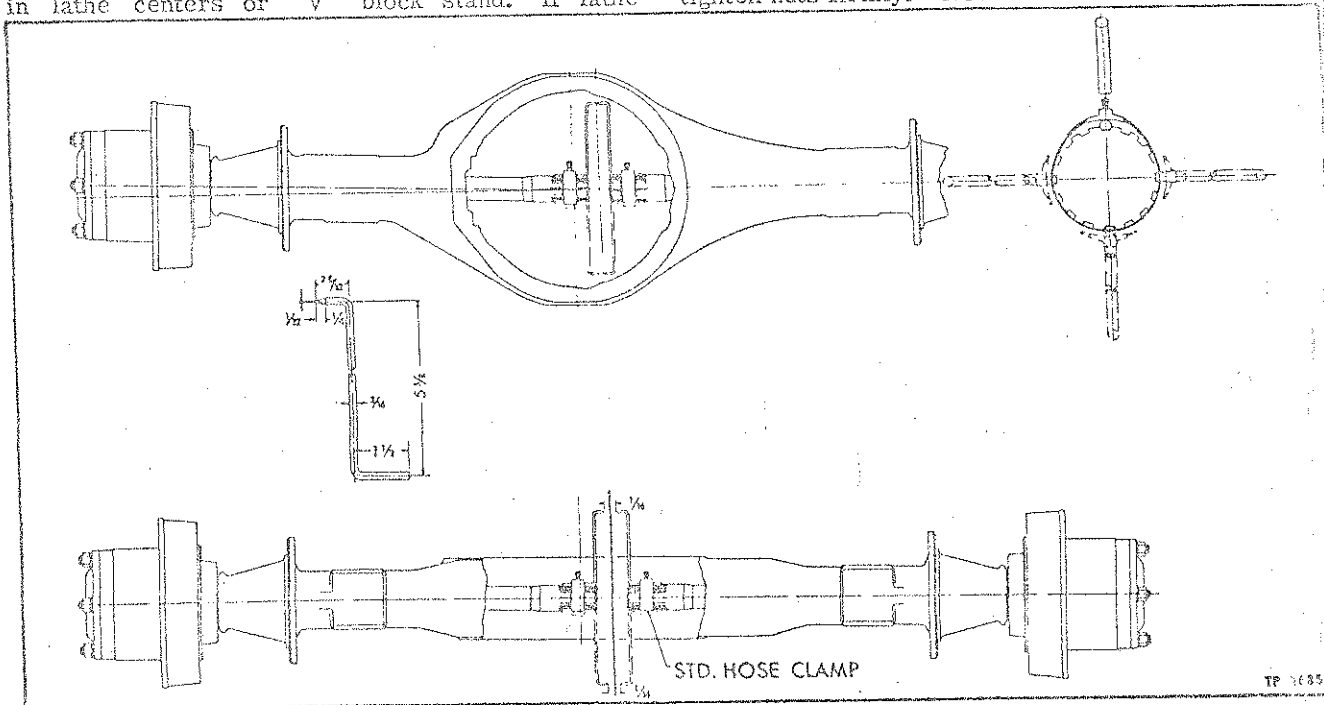

Figure 4—Housing Alignment Check
3. Indicators, as shown in figure 4, may be made locally from welding or drill rod (3/16" diameter) to dimensions shown. Make certain that burrs on axle shaft splines have been removed. Install indicators in place as shown in figure 4. Radiator hose clamps of suitable diameter may be used to secure indicators in position.
4. Each indicator must be positioned at right angle to its respective axle shaft after it is secured in place. Both indicators must be in alignment with each other. There should be a slight gap between the points as shown in figure 4. Insert a feeler gauge or measure gap between the indicator points, and make note of this dimension.
5. Place both indicators in alignment, then rotate both shafts simultaneously. Make a check of the gap dimensions between the indicators at four points 90 degrees apart, as shown in figure 4. If the gap at each point exceeds original predetermined gap by more than 1/16," axle housing is bent at various points and should be straightened or replaced.
DRIVE PINION & CAGE REASSEMBLY (Figs. 4 and 5)